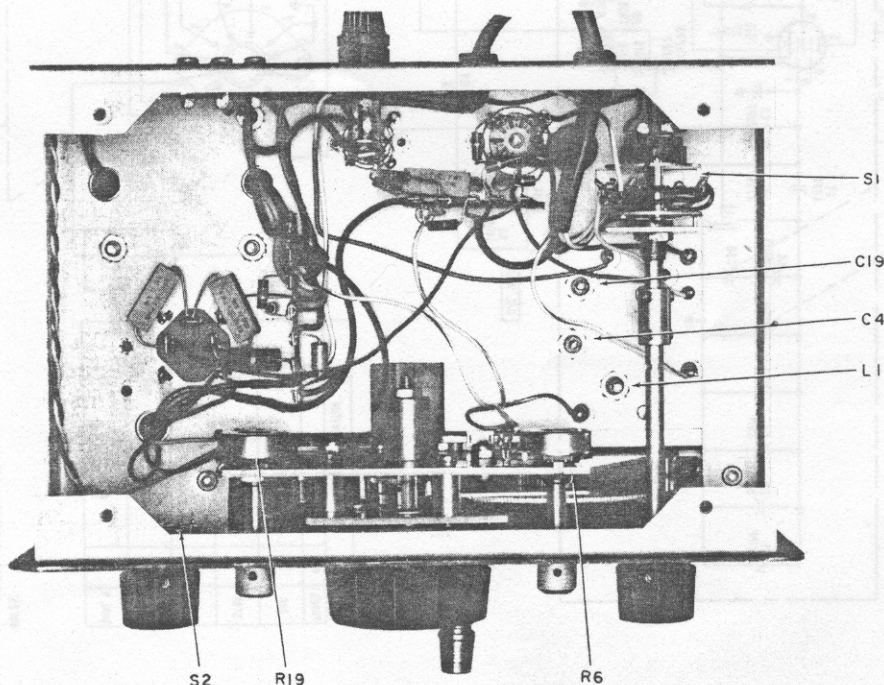

Figure 29. Model HA-20 Bottom View.
1. Remove and operate the chassis assembly outside of the cabinet (see paragraph 12-6) to gain access to the adjustment screw of trimmer C4. See figure 29 for location of the trimmer.